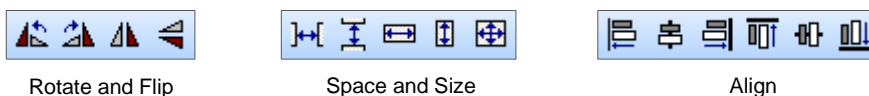

Figure 121. Symbol Controls
- 2. Use the controls on the toolbar to arrange the selected symbols (as shown in Figure 121).